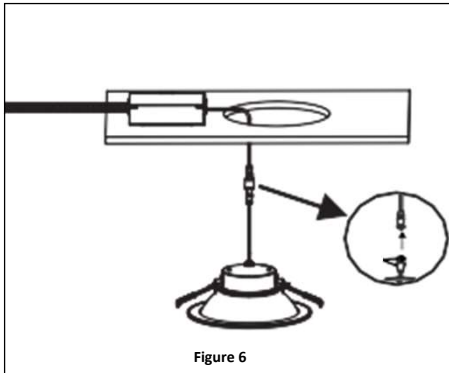

Figure 6
4. Connect the keyed connector ends of both the wiring compartment and the fixture and tighten the captive nut to secure the connection. **See Figure 6.**